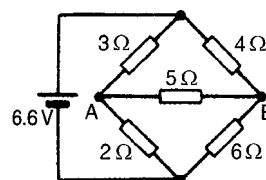

Figure 13.51
- 5 For the bridge network shown in Fig. 13.51, find the current in the 5 Ω resistor, and its direction, by using Thévenin's theorem. [0.153 A from B to A]